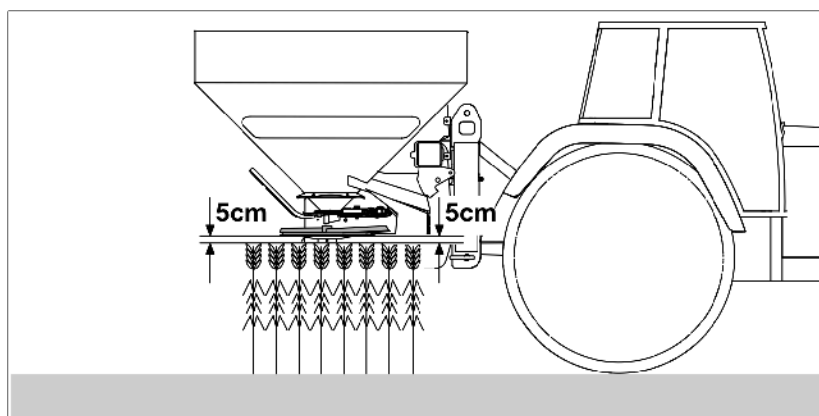

Fig. 57
3. Swivel the swivel blades (Fig. 57/1) of the spreading vanes to the required position for normal fertilising or late top dressing.